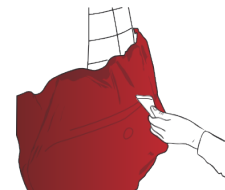

Figure 25
- › Apply the film over the whole surface using a felt-covered, plastic squeegee, and carefully wipe over the convex area (FIG. 25) to eliminate any tensions and folds.